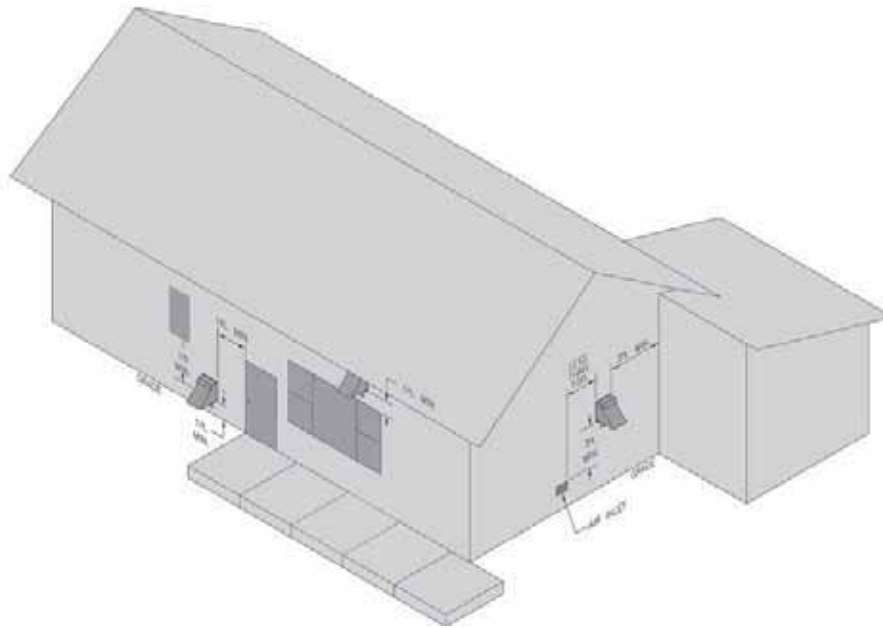

Figure 24: Vent Terminal Location
6. Locate the vent terminal so vent pipe is short and direct, and, at the place on exterior wall that complies with the minimum distances as specified in Figure 24 and listed as follows. The vent termination must be located (as measured to the bottom of vent terminal):